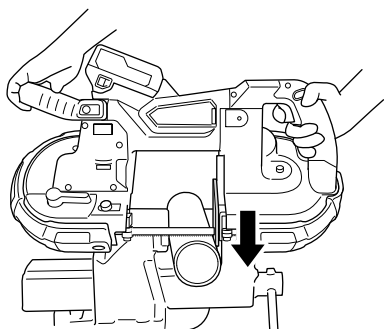

Fig. 21
(5) Press the switch and cut (Fig. 21)